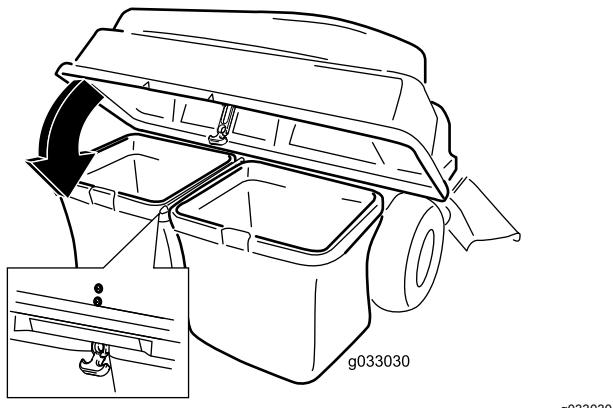

Figure 19
5. Lower the bagger top onto the bags (Figure 19).
6. Secure the hood with the latch (Figure 19).